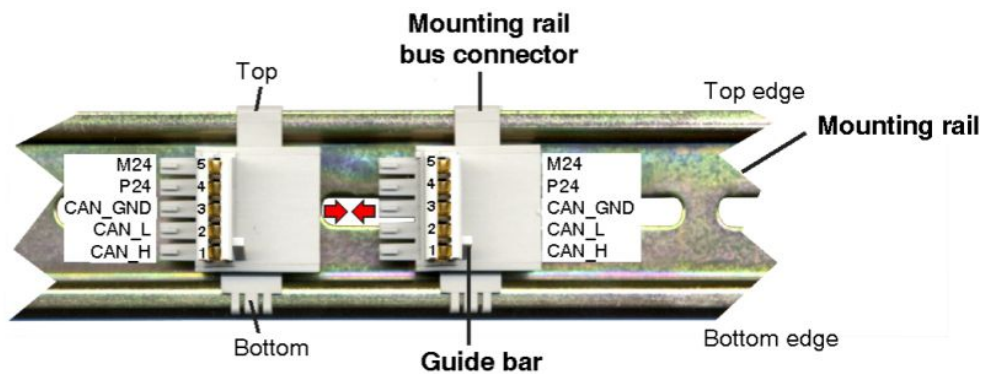

Figure 45: Mounting rail with bus connector
3. Swivel the CAN-CBX module onto the mounting rail in pressing the module downwards according to the arrow as shown in figure 45. The housing is mechanically guided by the DIN rail bus connector.